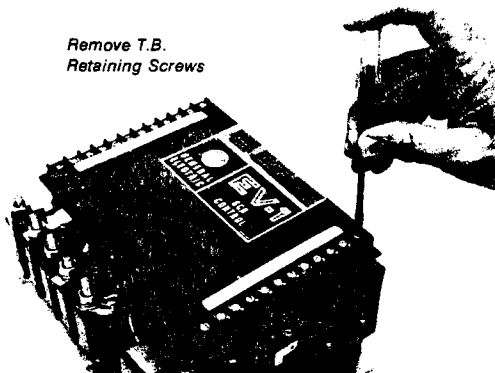

Fig. 9.
- a. Remove the four (4) screws shown in Fig. 9.